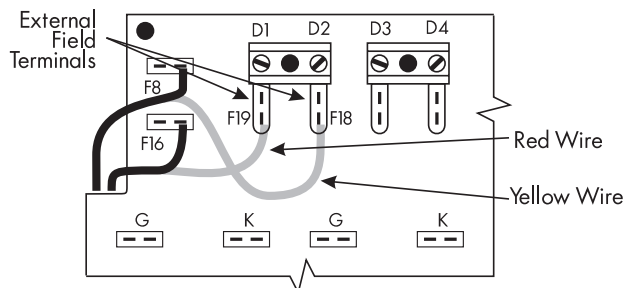

Figure 3.4 - External Field Supply Jumper Connections for Units Rated through 250A
- Verify that power is disconnected, then move the RED wire from internal terminal F16 to internal terminal F19 and move the YELLOW wire from F8 to F18 (see Figure 3.4).